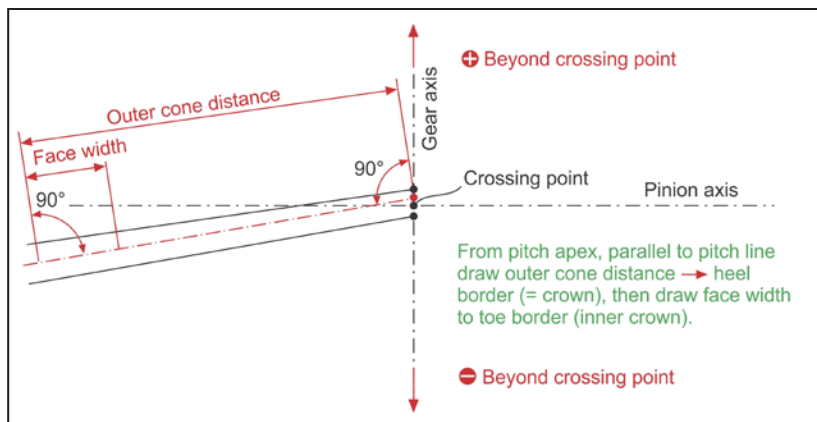

Figure 6 Draw outer cone distance and face width.
In the following step, the Outer Cone Distance (Item 7 in Figure 2) is drawn along the pitch line as shown in Figure 6 which gives the location of the tooth heel border. The toe border is found by marking the Face Width (item 8 in Figure 2) from the outer cone distance towards the center of the gear (in direction of the pitch line), which marks the location of the tooth toe border.